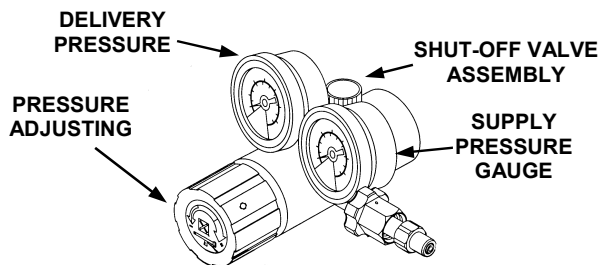

Figure 1-3. Piston Type High Pressure Regulator
a. A piston type high pressure regulator (figure 1-3) that reduces inlet pressure of up to 6,000 psi (414 Bar) to 135 psi (9.3 Bar). The pressure regulator is designed to mate with a CGA-346/347 adapter fitting.